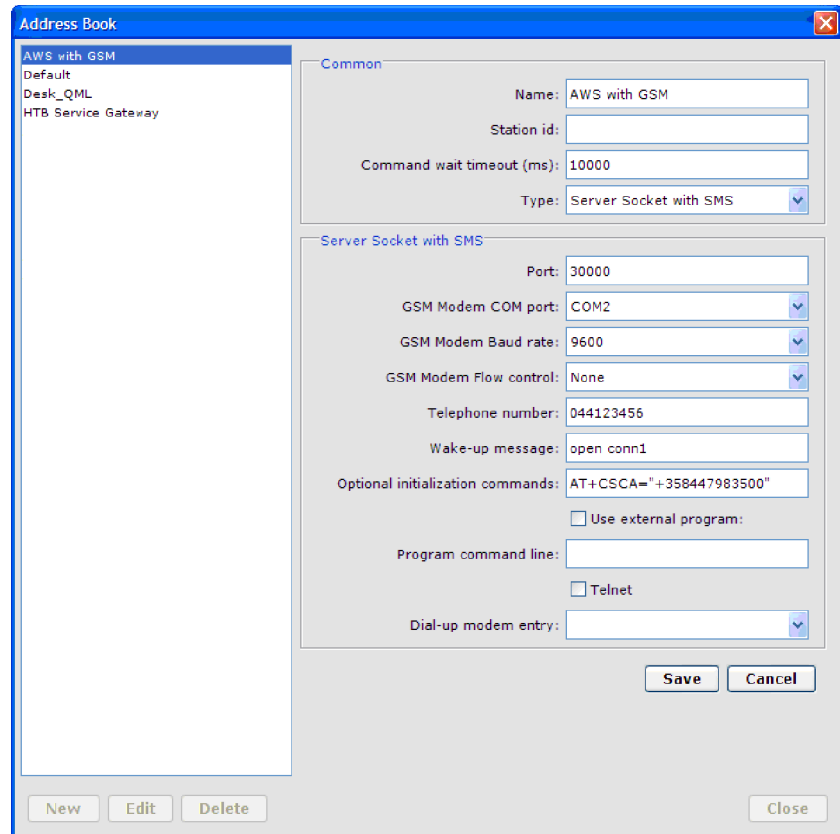

Figure 25 Creating Server Socket with SMS Address Book Entry
- From the **Type** list, select **Server Socket with SMS** as the connection type. The fields for selecting the TCP/IP connection parameters are displayed, as shown in Figure 25 on page 51.